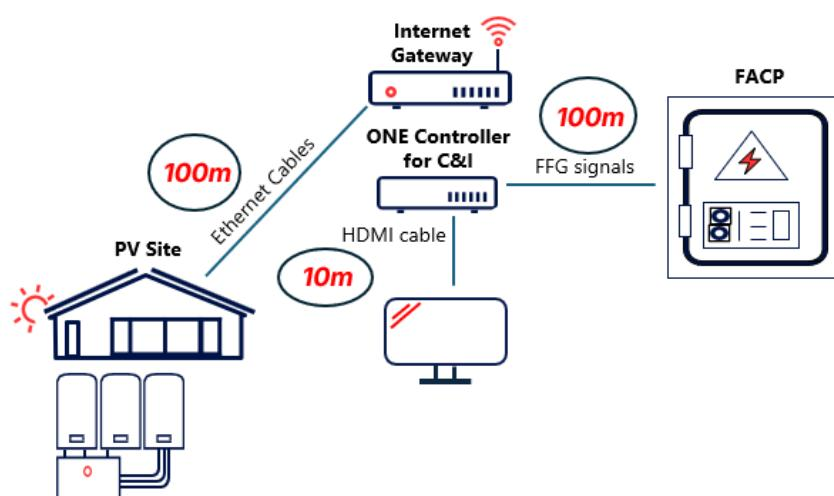

Figure 3: recommended maximum interface cable length
- Refer to Figure 3 or the recommended maximum cable length per interface: